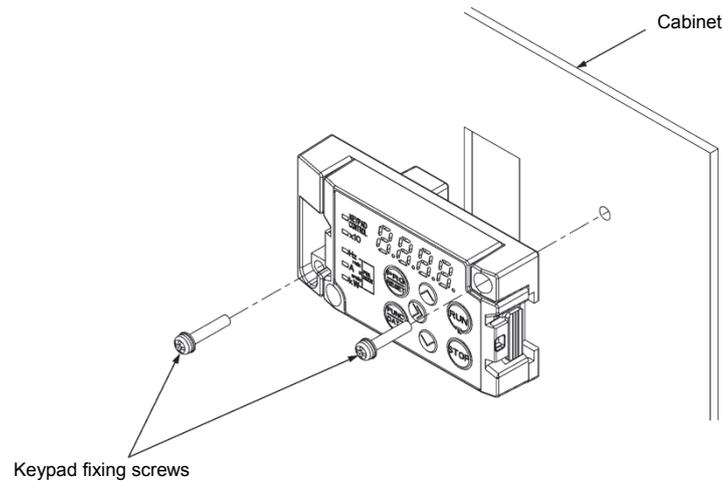

Figure 2.3-7 Attachment of the Keypad
- (4) Fix the keypad to the cabinet using 2 keypad rear cover fixing screws. (Refer to Figure 2.3-7) (tightening torque: 0.7 N•m(6.2lb-in))